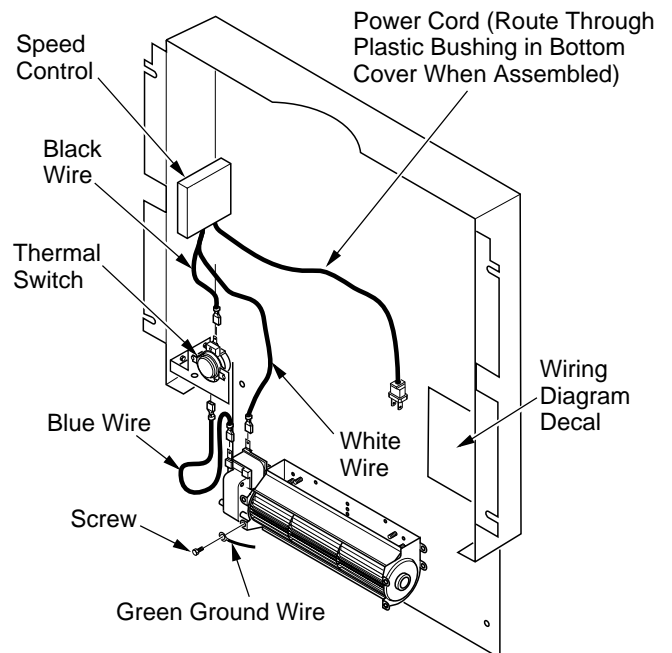

Figure 11 - Blower Wiring Layout (Thermostat Blower Shown)
7. Place the green ground wire between the bottom hole on the blower assembly and the hex screw and tighten (see Figure 11).
8. Connect the blue wire on the blower assembly to one side of the thermal switch (see Figure 11).
9. Connect the black wire to the other side of the thermal switch (see Figure 11).
10. Connect the white wire to the other terminal on the blower motor assembly (see Figure 11). Make sure the thermal switch has been properly installed to fit against back of fireplace insert after the rear cover assembly has been reinstalled.
13. Peel off the backing paper and stick the supplied wiring diagram decal on the inside of rear cover as shown (see Figure 11).